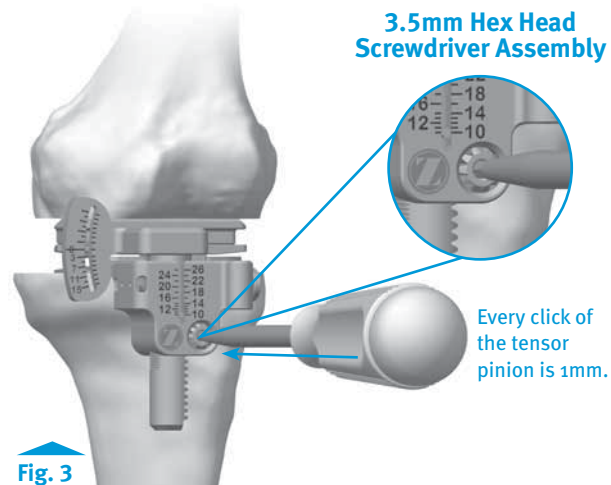

Fig. 3
- Using 3.5mm Hex Head Screwdriver, apply the appropriate amount of force to the tensor to distract the joint (Fig 3).